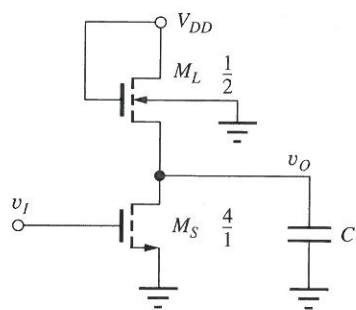

Figure P6.144
- 6.144. (a) What are the rise and fall times and average propagation delay of the NMOS gate in Fig. P6.144 if $C = 0.5$ pF and $V_{DD} = 2.5$ V? Use the estimates in Table 6.10. (b) What are the rise and fall times
and average propagation delays of the NMOS gate in Fig. P6.144 if $C = 0.3$ pF and $V_{DD} = 3.3$ V? Use Table 6.10.